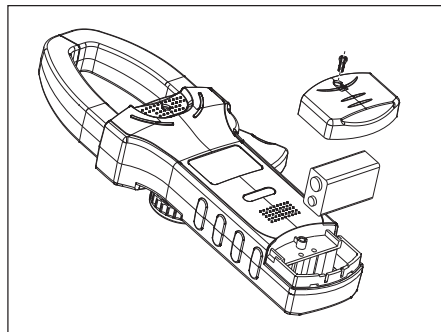

Figure 12
B. Replacing the Battery (see figure 12)